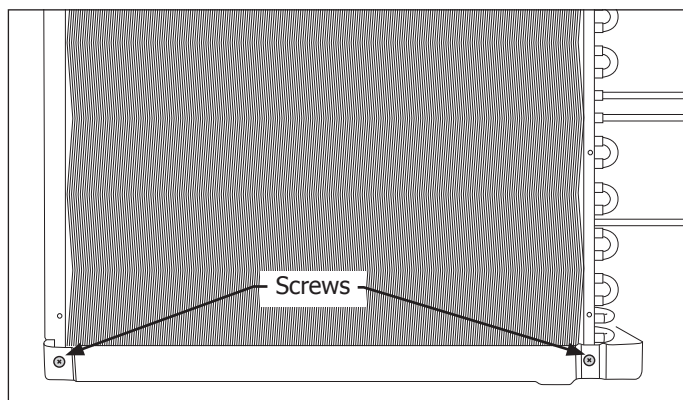

Figure 4-51.
6. Extract the two screws securing the bottom of the condenser to the unit base. (See Figure 4-51)